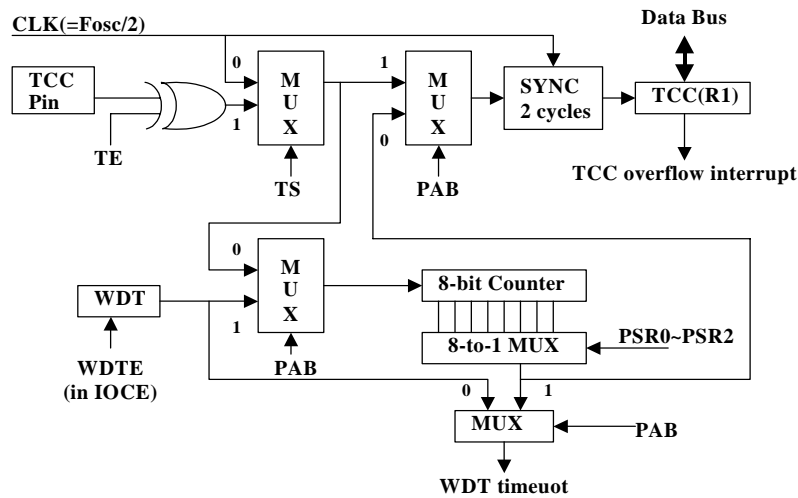

Fig. 6 TCC and WDT Block Diagram
An 8-bit counter is available as prescaler for the TCC or WDT. The prescaler is available for either the TCC or WDT only at any given time, and the PAB bit of the CONT register is used to determine the prescaler assignment. The PSR0~PSR2 bits determine the ratio. The prescaler is cleared each time the instruction is written to TCC under TCC mode. The WDT and prescaler, when assigned to WDT mode, are cleared by the "WDT" or "SLEP" instructions. Fig. 6 depicts the circuit diagram of TCC/WDT.
- R1 (TCC) is an 8-bit timer/counter. The clock source of TCC can be internal or external clock input (edge selectable from TCC pin). If TCC signal source is from internal clock, TCC will increase by 1 at every instruction cycle (without prescaler). Referring to Fig. 6, CLK=Fosc/2 or CLK=Fosc/4 selection is determined by the CODE Option bit CLK status. CLK=Fosc/2 is used if CLK bit is "0", and CLK=Fosc/4 is used if CLK bit is "1". If TCC signal source comes from external clock input, TCC is increased by 1 at every falling edge or rising edge of TCC pin.